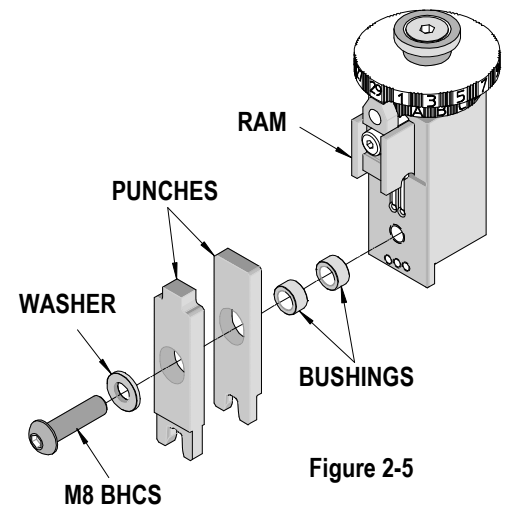

Figure 2-5
2. To remove the punches, use a 5mm hex wrench to remove the M8 BHCS holding the punches, washer, and the bushings to the ram. See Figure 2-5.